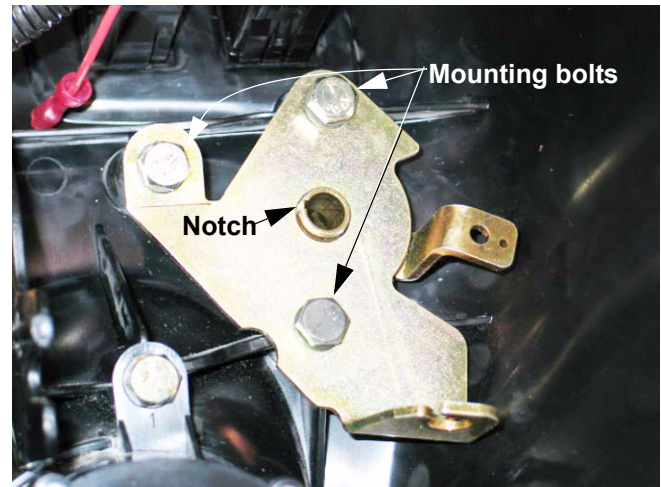

Figure 2.7
- 2.7. The throttle assembly can be unbolted from the dash panel using a 7/16" wrench. See Figure 2.7.